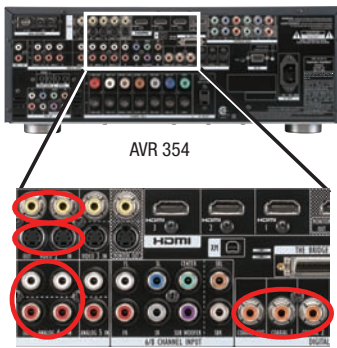

Figure 26 – Connecting a Composite or S-Video Recorder
Composite/S-Video: If the best video connection common to both the recorder and the TV is either S-video or composite video, or to make recordings, follow these steps, using only one type of video connection throughout (see Figure 26):
- To make two-channel digital audio recordings, connect the recorder's digital audio output to one of the Optical or Coaxial Inputs, and connect the AVR's Coaxial Digital Audio Output to the recorder's coaxial input. The AVR will convert an optical digital audio input signal to the proper format for recording via the Coaxial Digital Audio Output. See Figure 26.